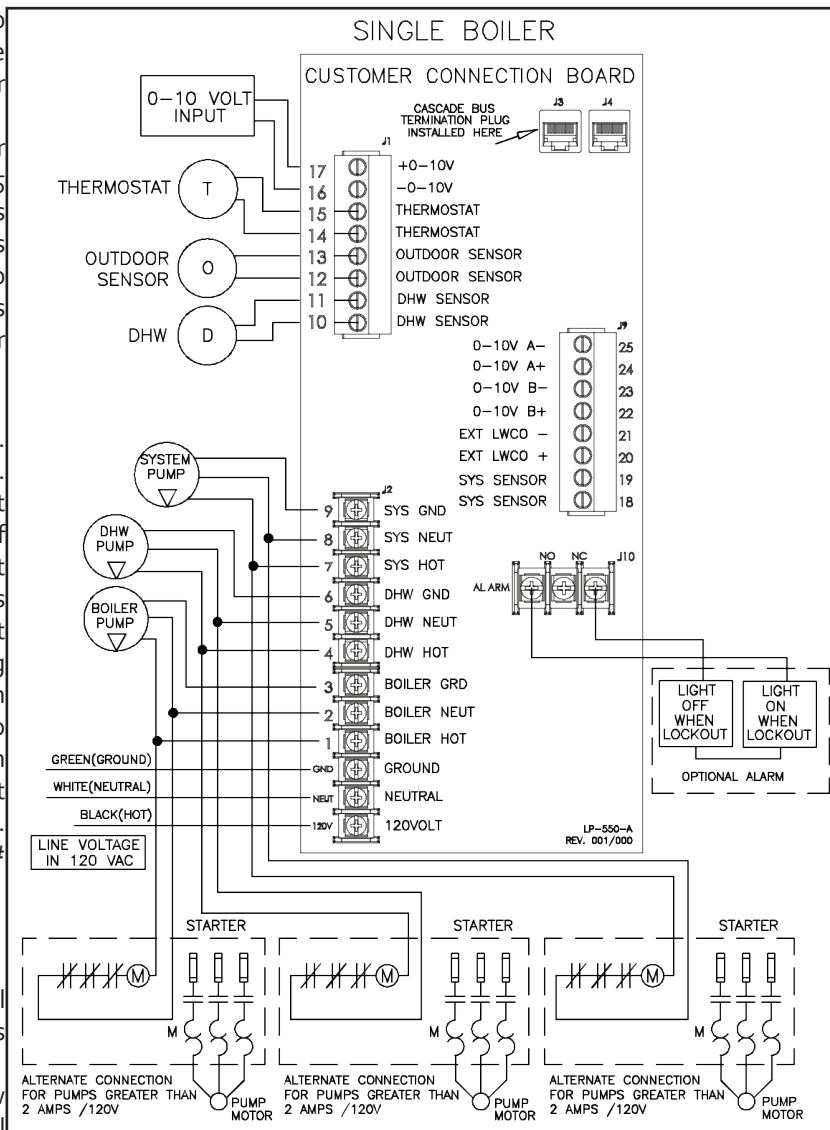

Figure 22 - Control Wiring
NOTE: A termination plug is included in the CAT 3 / CAT 5 Bus Connection Point, labeled J3 in Figure 22. DO NOT REMOVE THIS PLUG! Doing so will affect boiler operation and void warranty.
1. Connect the incoming power wiring to the line voltage terminal strip in the electrical junction box at terminals 120V, NEUT, and GND (shown in Figure 22).
The control includes a dry contact alarm output. This is an SPDT circuit, rated at 5 amps at 120 volts. This contact can be used to activate an alarm light or bell or notify a building management system if the boiler goes into a lockout condition. The circuit between the ALARM COM and NC terminals is closed during normal operation and the circuit between ALARM COM and NO is open during normal operation. The connections depicted in Figure 22 show two 120 volt lights connected to the alarm terminals. One light will be on when the boiler is in normal mode and the other light will be on when the boiler is in lockout mode. Westinghouse offers an Alarm System Kit (part # 7350P-602).
1. All low voltage cables should enter the electrical junction box through the provided knock out holes as shown in Figure 22.
1. Connect the room thermostat to the terminals marked 14 and 15 (THERMOSTAT) in the electrical junction box (shown in Figure 22). Alternately, any dry contact closure across these terminals will cause the boiler to run. Caution should be taken to ensure neither of the terminals becomes connected to ground.
1. If using an outdoor sensor, connect wires for sensor to the terminals marked 12 and 13 (OUTDOOR SEN, shown in Figure 22) in the electrical junction box. Caution should be used to ensure neither of these terminals becomes connected to ground.
2. Connect the indirect tank sensor (7250P-325) to the terminals marked 10 and 11 (DHW SENSOR, shown in Figure 22) in the electrical junction box.
2. Connect a building management system or other auxiliary control signal to the terminals marked 17, 0-10 VOLT + and 16, 0-10 VOLT – in the electrical junction box (shown in Figure 22). Caution should be used to ensure that the 0-10 VOLT + connection does not become connected to ground.
1. A Cascade Bus Termination Plug has been installed on the customer connection board of this boiler. The purpose of this plug is to stabilize communication between multiple boilers and reduce electrical "noise". See Figure 22 for Cascade Bus Termination Plug installation detail.
NOTE: It is important that the termination plug in multiple boilers (cascaded units) be installed as depicted in Figure 22. Leave the plug installed in the J3 port on the Master boiler. Remove the plug on intermediate Follower boilers. Move the plug to the J4 port on the final Follower boiler.